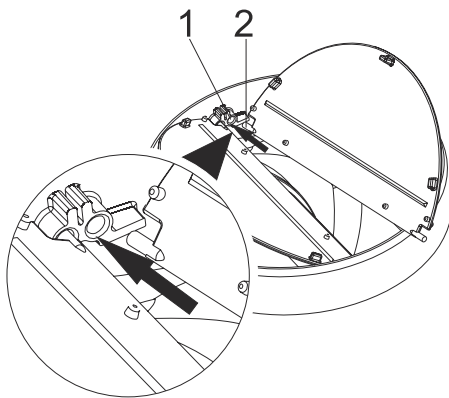

Fig. 12
- Insert the plastic pin (area no.2) on the pin socket on the motor exhaust (area no.1). Fig. 12. Then bend the flap lightly to insert the other pin on the flap and insert the other pin to its socket (Fig. 12).